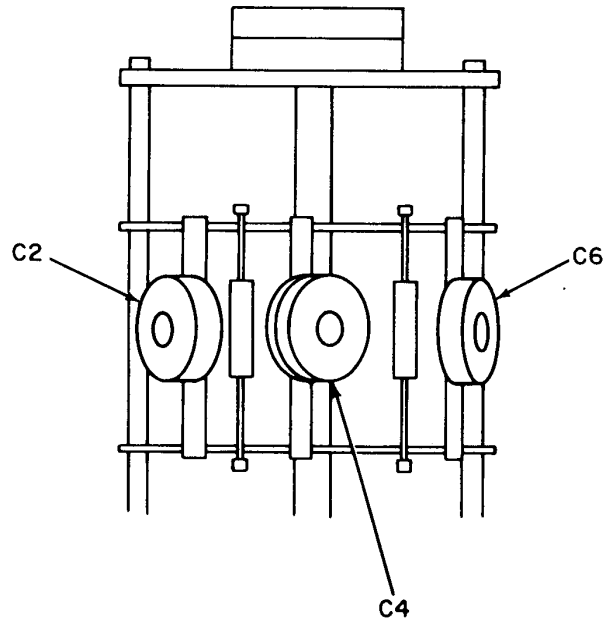

Figure 5. Vertical sensitivity switch - location of adjustments.
- (1) Adjust C6 (fig. 5) for best square-wave pattern on TI crt.(R)
- (3) Repeat (1) and (2) above for best results.
- (4) Adjust C4 (fig. 5) for best square-wave pattern on TI crt. (R)
- (5) Adjust C2 (fig. 5) for best square-wave pattern on TI crt. (R)